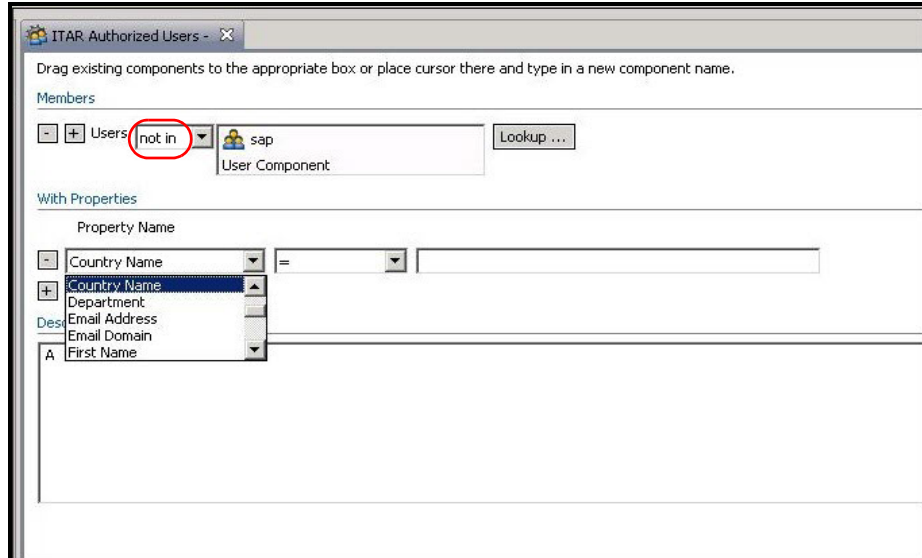

Figure 6-17: Creating a New User Component
- 4 Click the **User Component** tab in the *Resources* pane to access the list of User Components. For our policy, we click **New** to define a New user component specifically for ITAR-restricted data in SAP. In Figure 6-17, we select Users in the group SAP, and then specify the